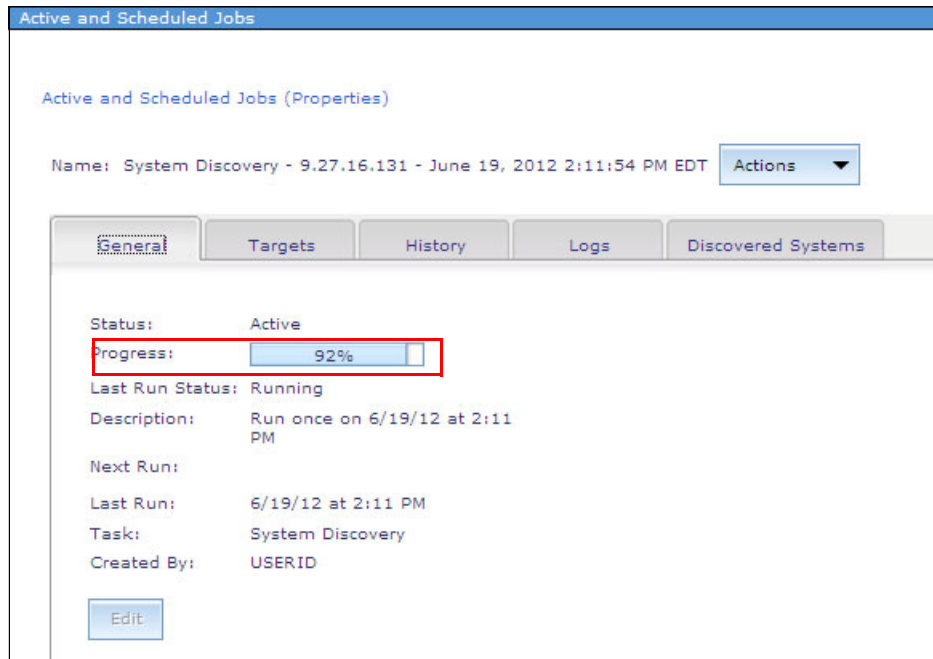

Figure 10-39 Checking the discovery job
4. Check the progress, as shown in Figure 10-39.